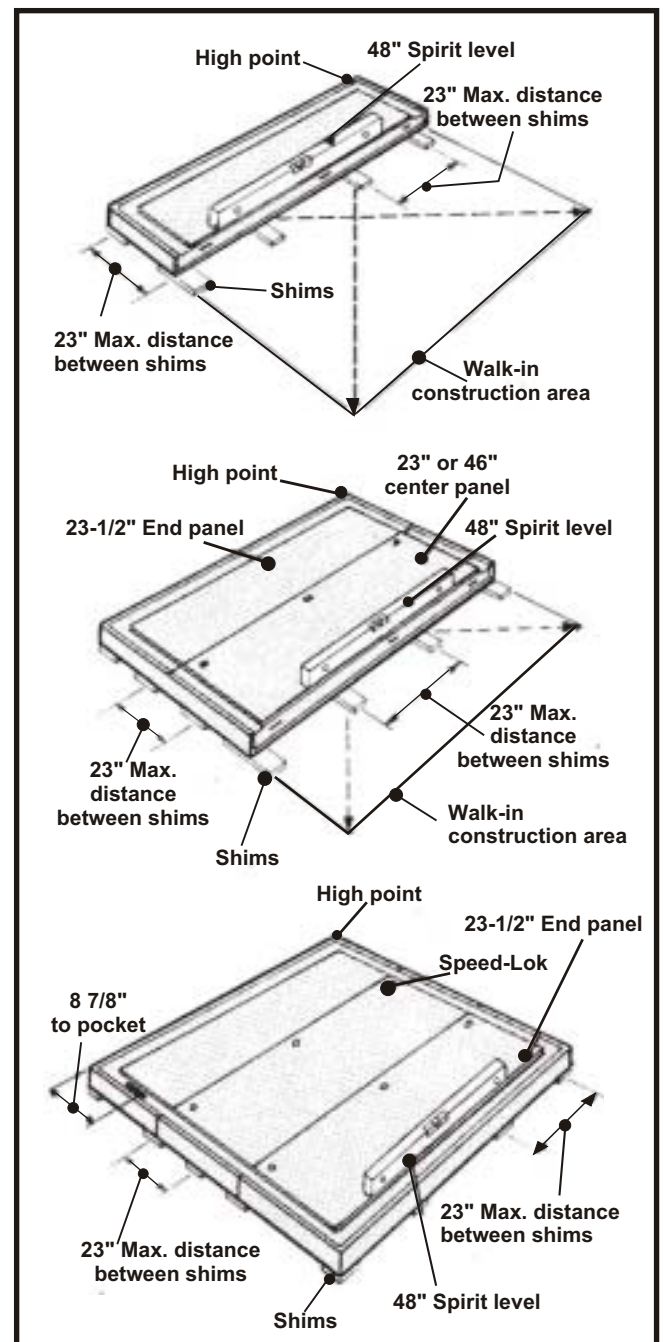

Fig. 11
- A. Place a 23-1/2" wide floor end panel along the outside mark designated for the Shelter. Be sure the panel is a floor panel. All floor panels have extra-heavy-gauge metal on the interior for extra strength. Again, make sure panel is level to high point of concrete slab. See Fig. 11.